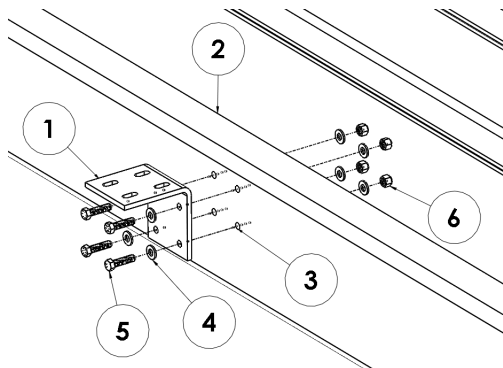

Figure 1.2
Position supplied mounting brackets (1) on frame (2). Align parts for squariness and ensure clearance between truck cab and all other components (Figure 1.2). Top of bracket should be flush with top of frame rail.